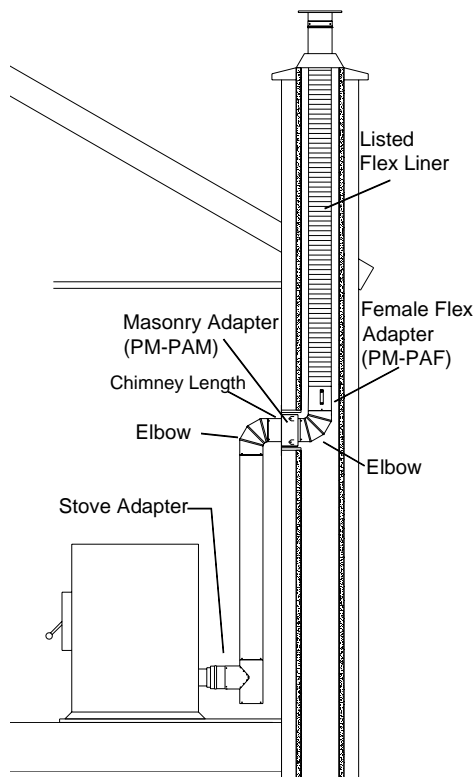

Figure 10
For an installation similar to Figure 10, follow steps 4b to 7b.
- 7b. As shown in Figure 10, fasten a tee or elbow to the Universal Stove Adapter (PM-PAS) and chimney lengths required to fit up to the liner adapter. You may need to use a slip length. Twist the part back and forth when you put them together. This turning motion will make the parts go together more easily. There is no need to apply silicone caulking to the exterior of the joint. The factory installed gasket on the flue will make a sealed connection. Secure all joints using three #6 x 1/4" screws provided. Put a small amount of liquid dish soap on each gasket to make it easier to assemble the vent lengths. Do not use a petroleum-based lubricant.